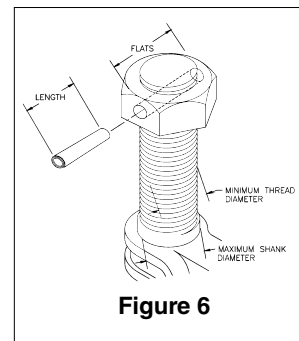

Figure 6
- See WARNING box and Figure 6 for special instructions for securing the nut to the shank at assembly.
- The minimum thread length engaged in the nut should not be less than one (1) thread diameter.
- All nuts must be secured to the shank by cross drilling the nut and threaded shank and inserting the appropriate coil type spring pin (See WARNING box and Figure 6 for special instructions).
- Coil type spring pin must be as long as the distance across the nut flats or diameter (See Figure 6).
- (A) the quality of machining,
- (B) the type of application, or
- (C) the means of attachment to the power source or load.